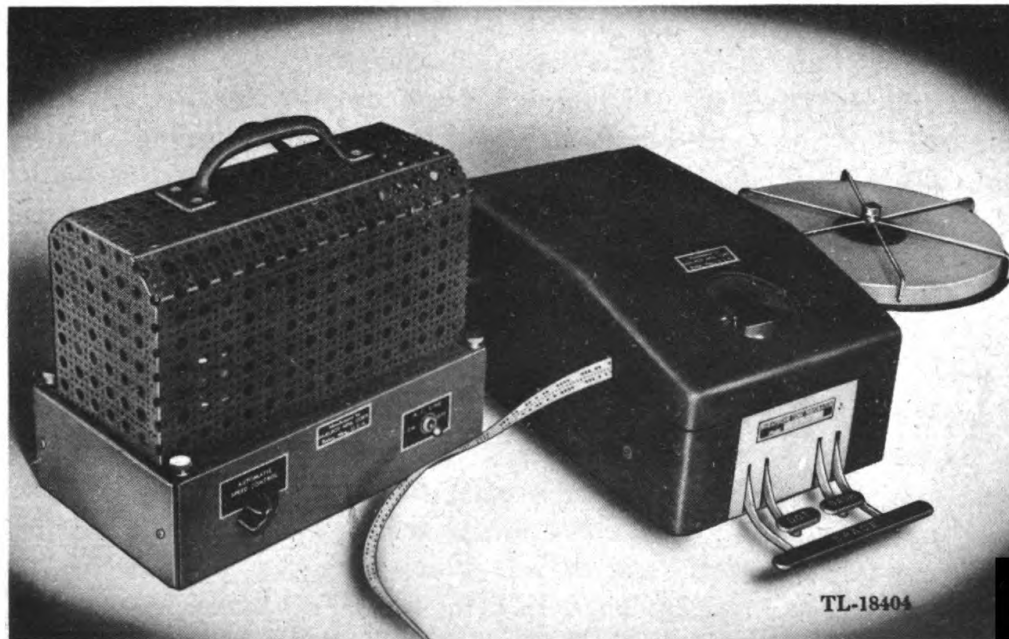

Figure 6. Hand perforator.
b. Hand Perforator. The hand perforator (fig. 6) can be used by anyone who knows the International Morse code. Since it has only three